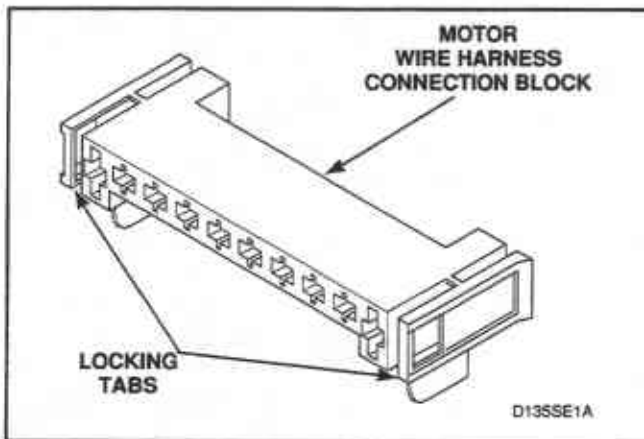

Figure 29
- Disengage motor wire harness terminal block from motor switch by pressing in on the movable locking tabs (located on each end of the terminal block) and pulling away from motor, *Figure 29*.
- (1) Disengage motor wire harness terminal block from the motor by pressing in on the movable locking tabs (located on each side of the terminal block) and pulling away from motor, *Figure 29*.